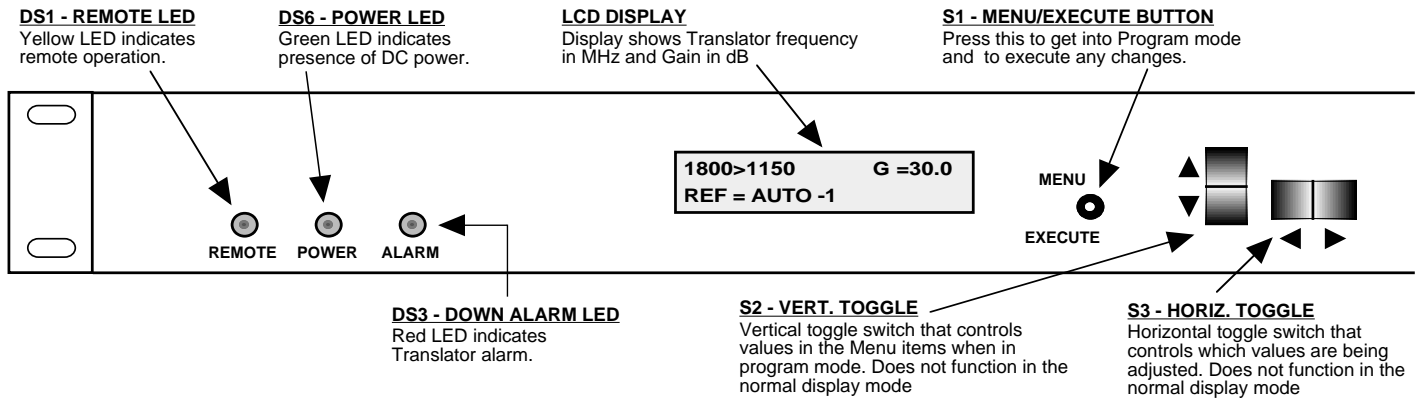

FIGURE 2.3 2083-1610 Front Panel Controls and Indicators
5. Be sure DS6 (green, DC Power) is on and DS (red, Alarm) is off (Figure 2.3).
Alarm indications appear on the LEDs (See figure 2.3).